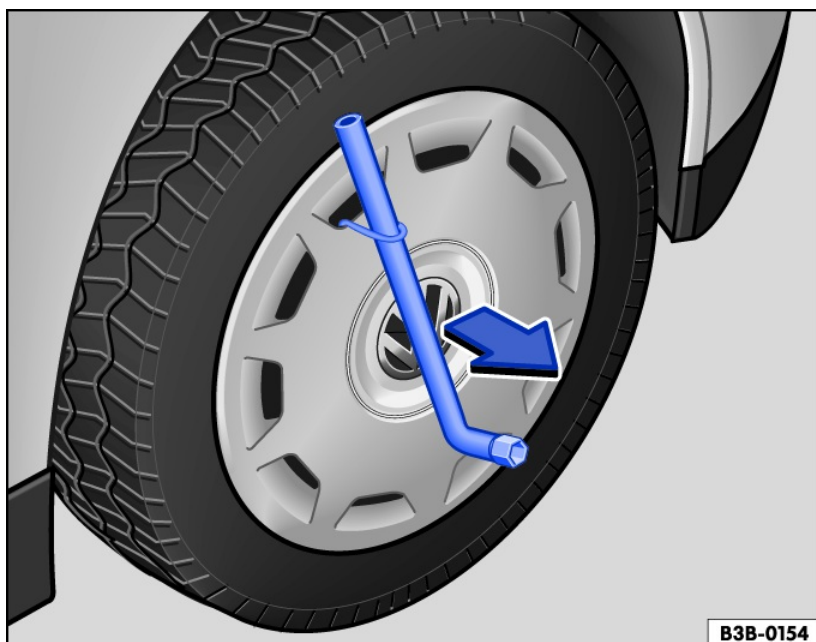

Fig. 209 Remove the full wheel cover.
- Remove the wheel hub cover with extraction hook in the direction of the arrow. If necessary, use a lug wrench for removal *fig. 209*.